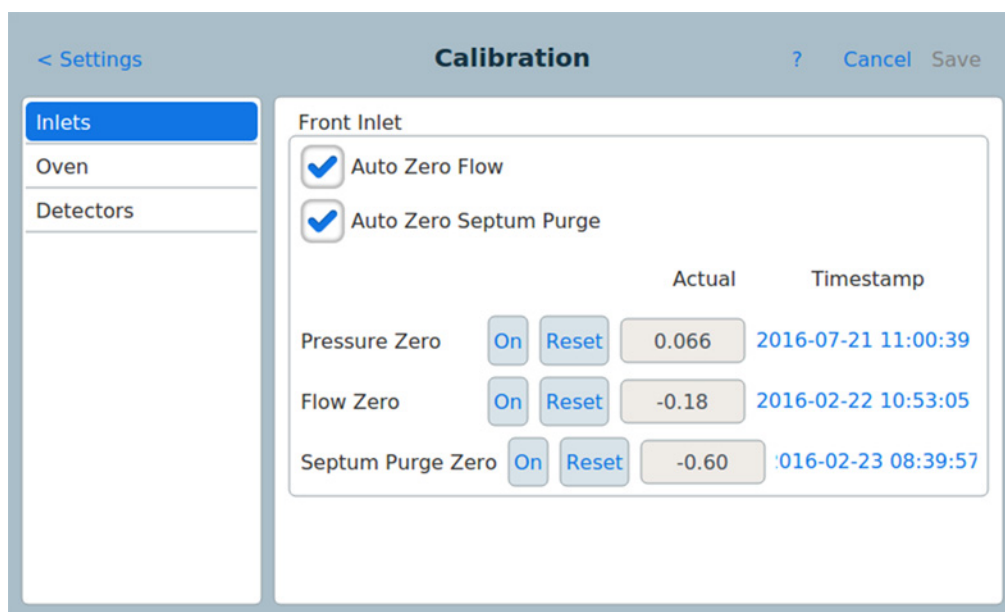

Figure 38 Calibration page
- 2 Press **Calibration**. The Calibration page appears. See Figure 38.